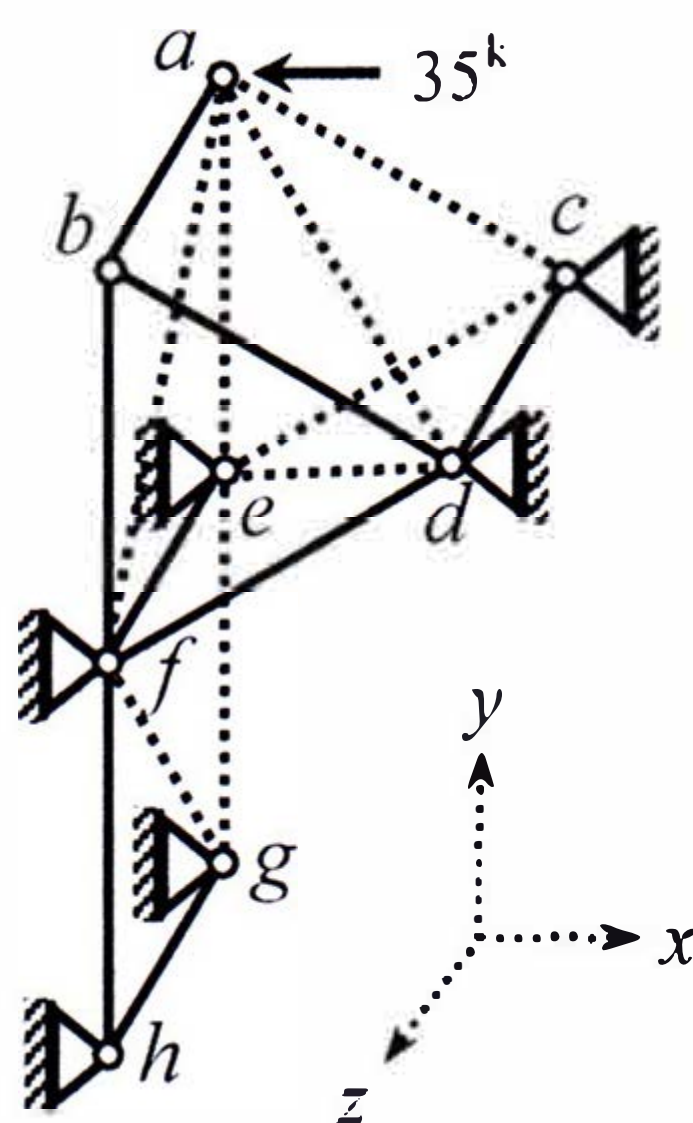

Fig. 2
2. Ignore zero-force members of the space truss *abcdefgh* as shown in *Fig.2* and apply boundary conditions to formulate stiffness matrix, force vector and load vector [Given: $S_x = 1200$ k/ft; Nodal Coordinates (ft) are $a(0,10,-6)$, $b(0,10,0)$, $c(8,5,-6)$, $d(8,5,0)$, $e(0,0,-6)$, $f(0,0,0)$, $g(0,-10,-6)$, $h(0,-10,0)$].